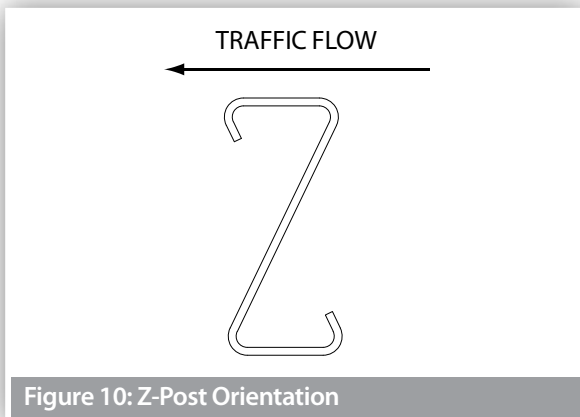

Figure 10: Z-Post Orientation
3. The post in relation to the direction of traffic is orientated as per Figure 10.